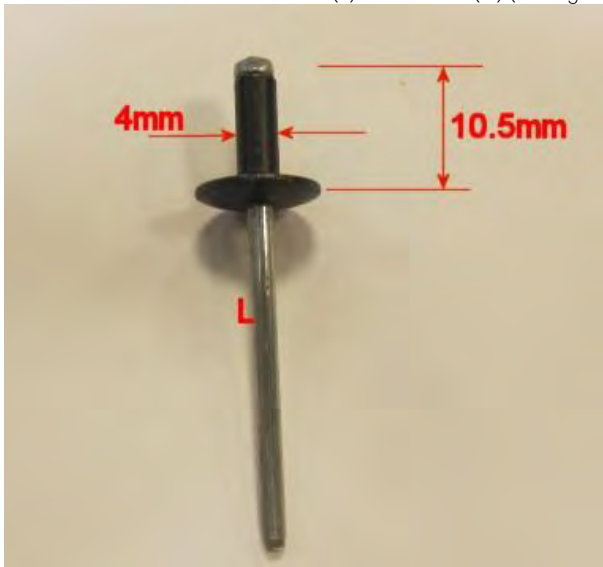

Figure 3e
Re rivet cords with new rivet (L) at rear bow (M) (see Figure 3e)